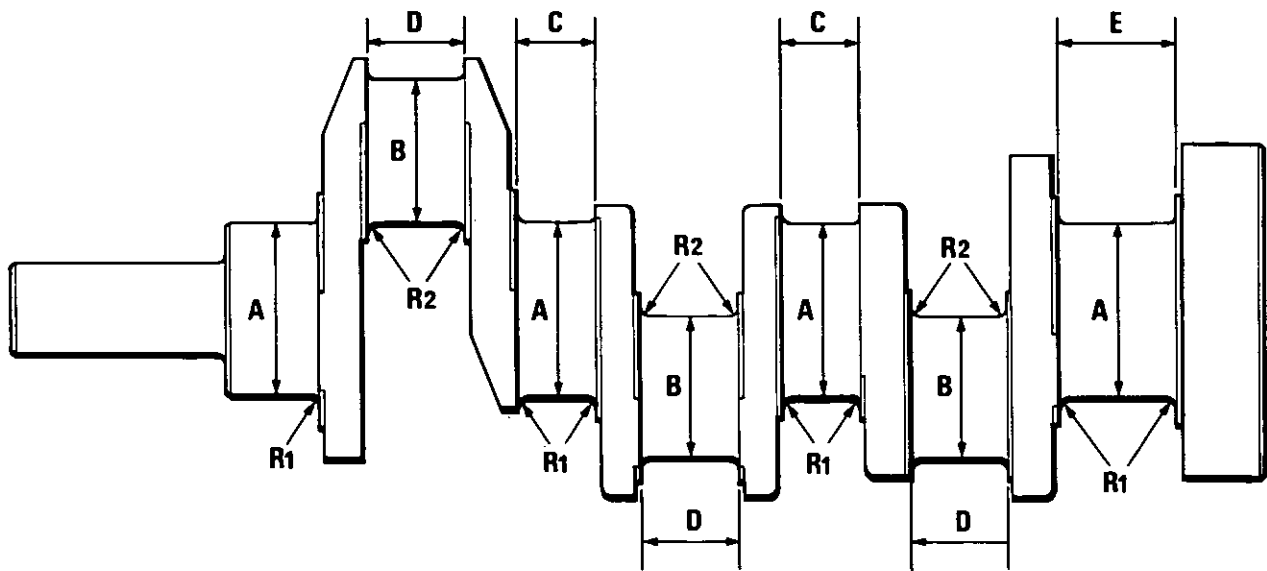

Fig. F.6
- (b) Main journal and crankpin diameters should be checked to ascertain next appropriate size to which crankshaft can be reground, i.e. -0.010 in (0,25 mm), -0.020 in (0,54 mm), or -0.030 in (0,76 mm). See Fig. F.6.